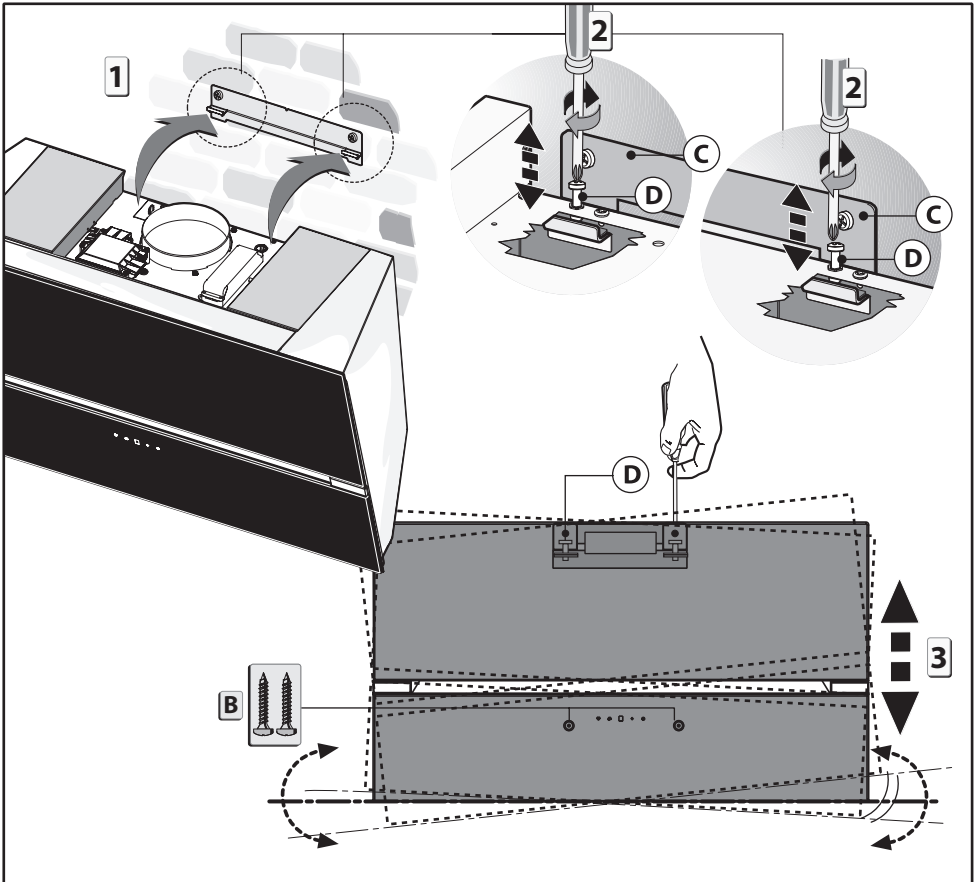

Fig.4
- Make sure the 2 levelling screws **D** are not tight (fig. 4).
- Take the appliance and hang it on bracket **C** figure 4 - phase 1.
- Align the appliance horizontally using the two levelling screws **D** figure 4 - phase 2.
- Once the adjustment has been made, fasten the hood permanently using the screws **B** figure 4 - phase 3.